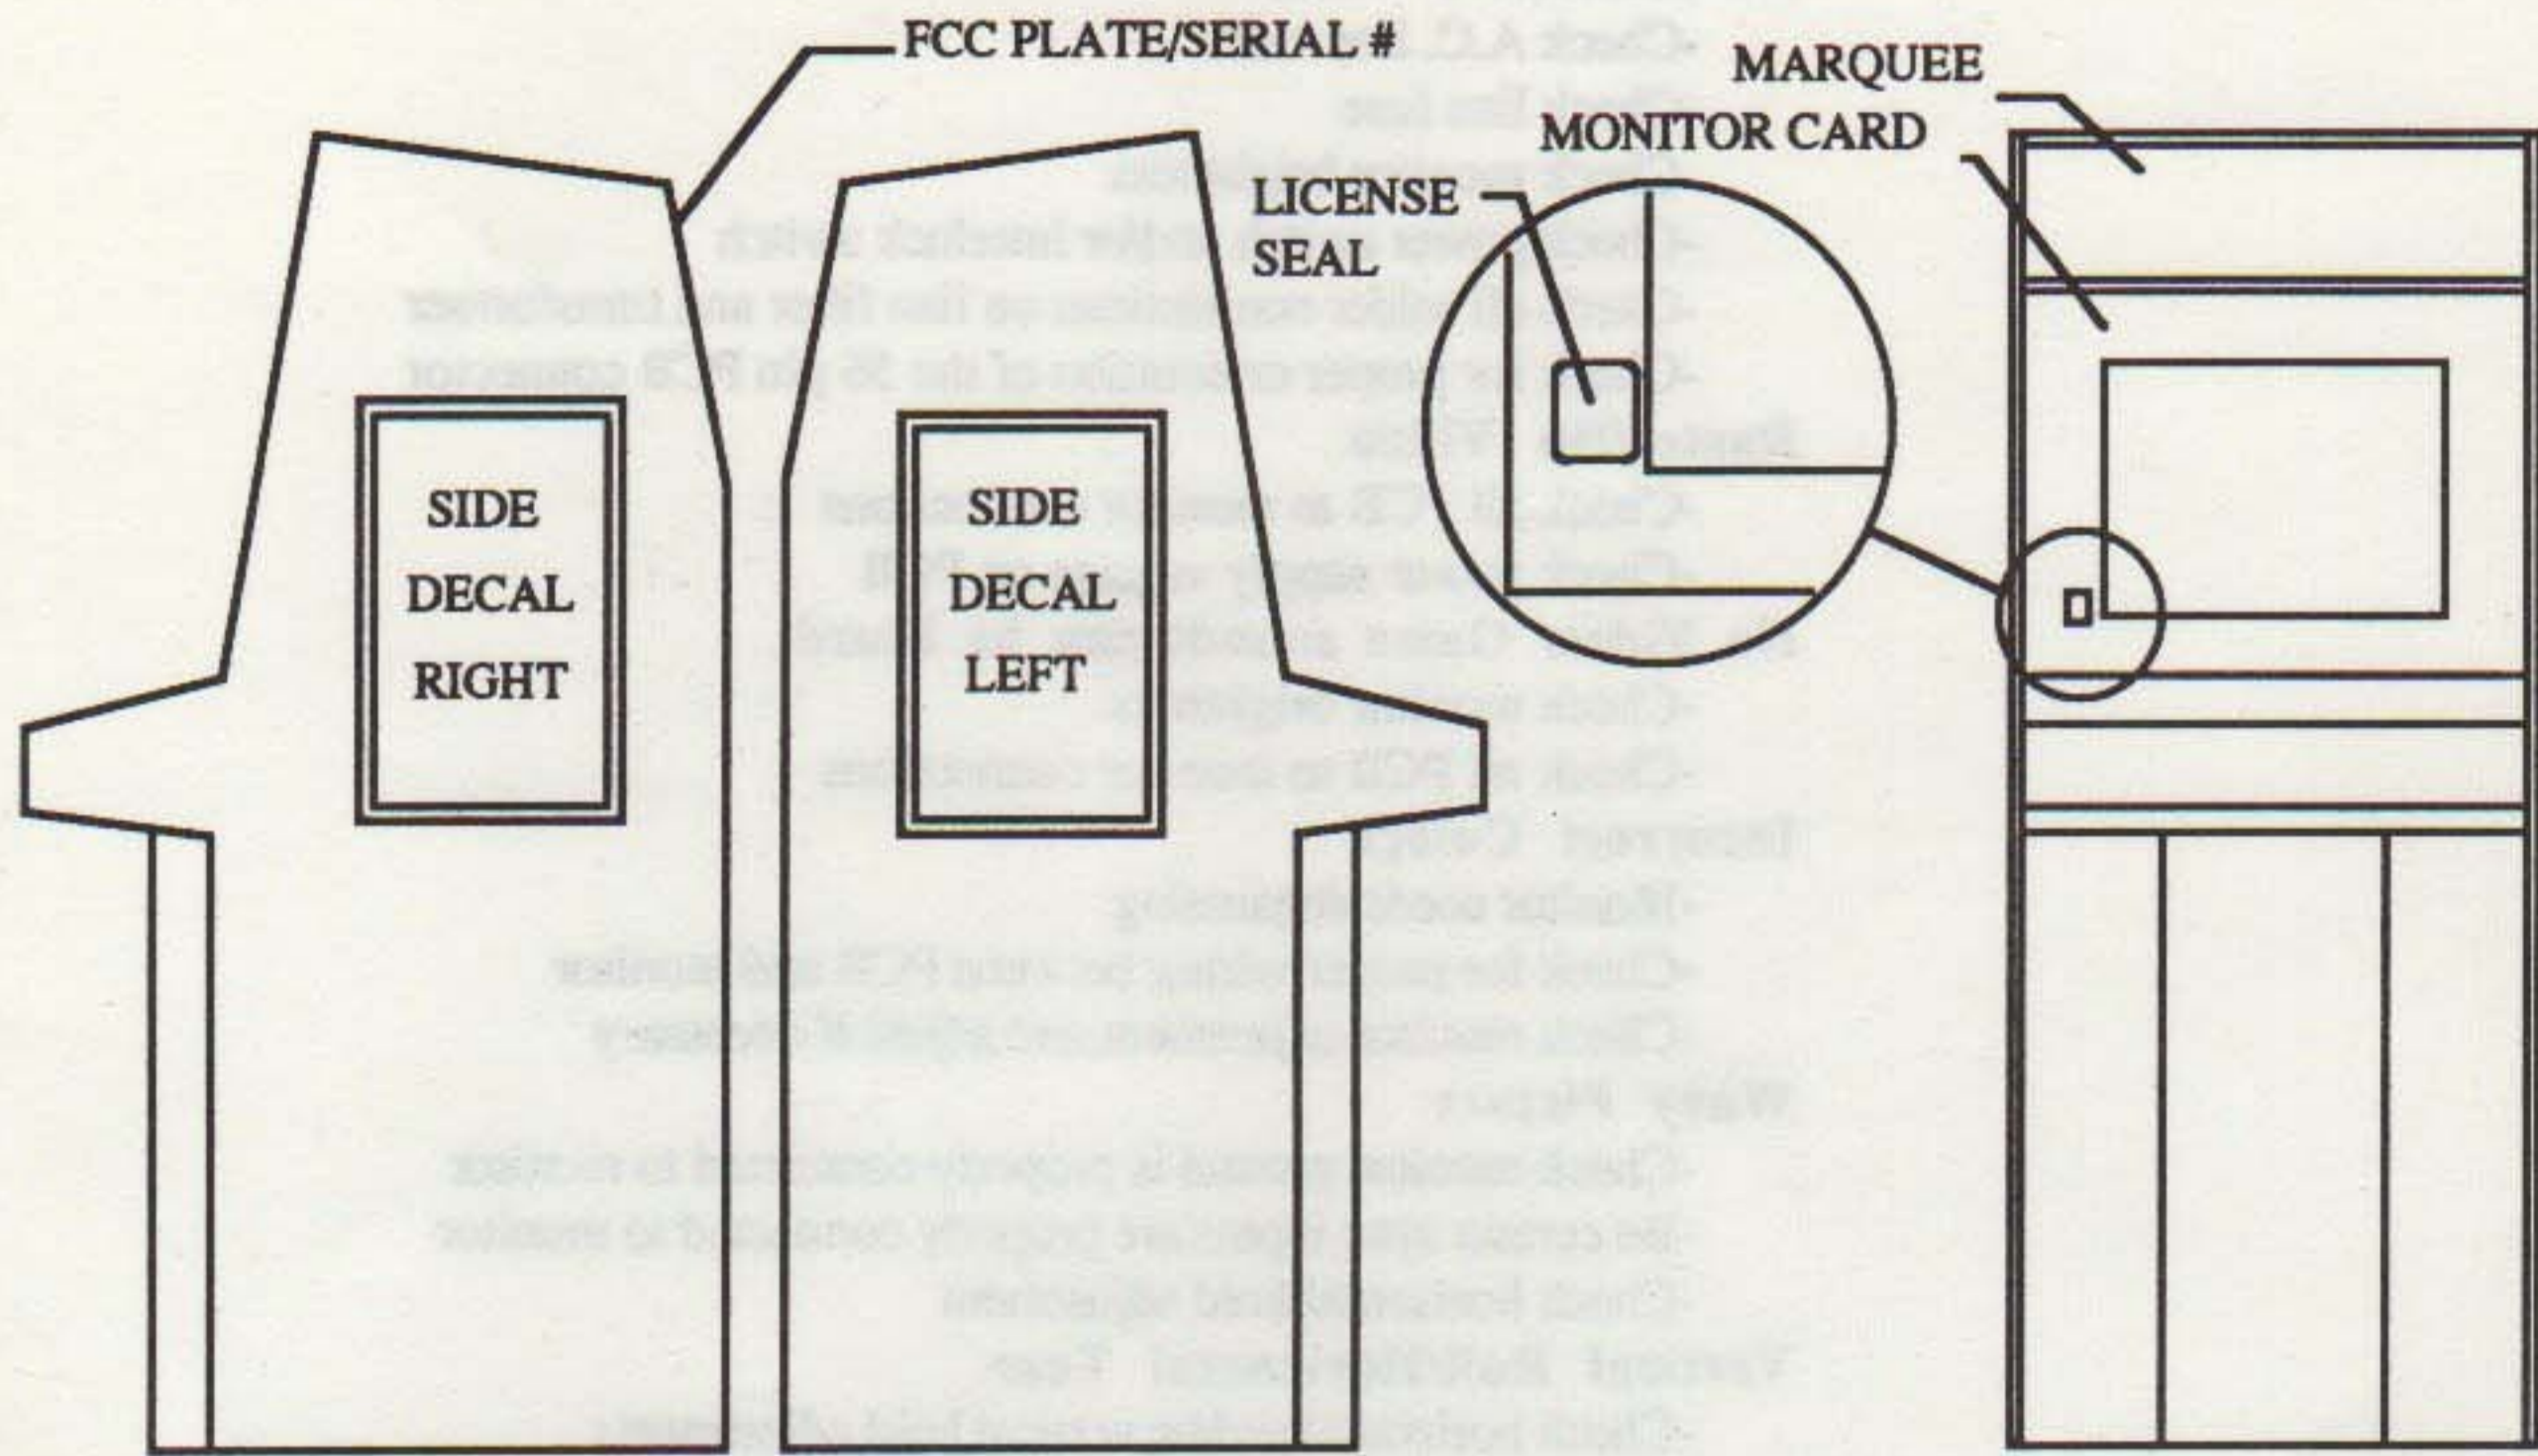

Figure 1
36. Locate the **Kit SERIAL NUMBER STICKER** and **FCC PLATE**. Install on the rear of the game cabinet. (see figure 1 )